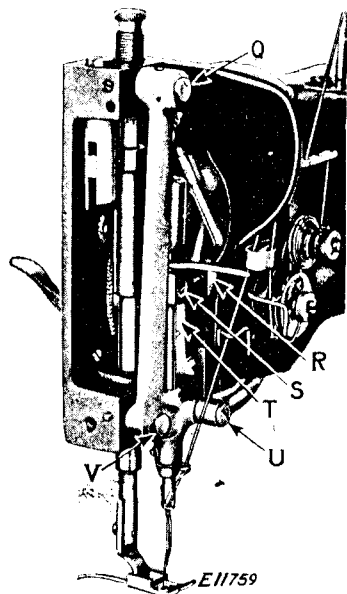

Fig. 19. Face Plate Removed
for straight stitching. A straight needle should now come in the center of the needle hole in the throat plate. If it does not, loosen the set screw which holds eccentric stud (U, Fig. 19) and adjust the stud (U) until it does.
In case the needle bar is not correctly set, loosen the needle bar connecting stud set screw (S, Fig. 19) and move the needle bar to the correct position, then tighten the set screw.
Remove the arm shaft connection belt. Remove the screw at the center of the balance wheel and loosen the two screws in the belt groove, also the two screws in the belt pulley and the two in the feed lifting eccentric. Remove the top and bottom studs (Q and V, Fig. 19) and the eccentric stud (U) in the needle bar frame after loosening the set screws which hold them, and remove the needle bar frame. Remove the two gibs (R and T, Fig. 19) which hold the needle bar connecting link in the guide block. Loosen the set screw at (CC, Fig. 3) which holds the take-up lever stud. Also loosen the spot screw and set screw in the perimeter of the needle bar crank, through the hole in the casting (BB, Fig. 2), and remove the take-up and crank. Loosen the set screw (E, Fig. 3) which holds the front bushing and withdraw the arm shaft, with the front bushing, from the needle bar end. If the bushing should stick, insert a brass rod through the arm cap hole and drive the bushing out.